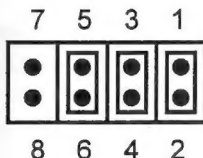

Figure A-2 CN11 jumper settings
- Connectors CN11 and CN10 on the main board are now exposed. Place three jumpers over pins 1-2, 3-4, and 5-6 on connector CN11 (see Figure A-2).